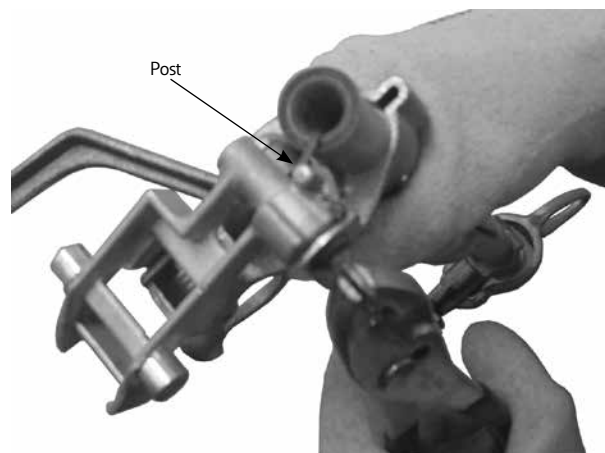

Figure 10. Installing a new fuse link.
- Maintain tension on fuse link cable and with flipper firmly depressed, cross the fuse cable over itself and tighten the thumbscrew. See Figure 10.